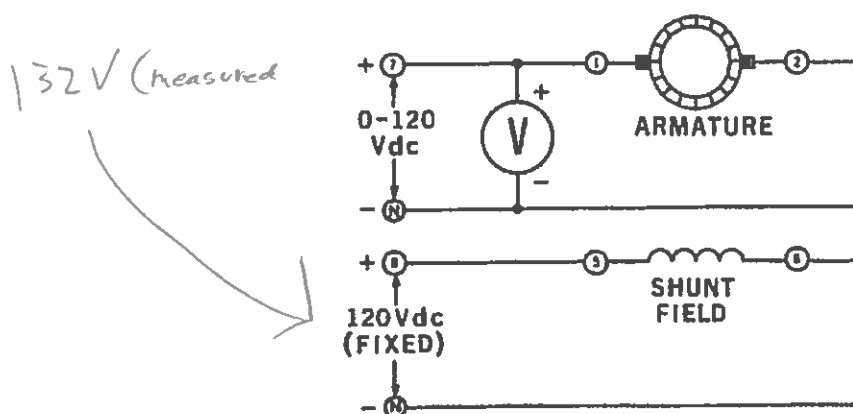

Figure 12-5.
19. Connect the circuit shown in Figure 12-5. Note that the armature is connected to the variable 0-120 V dc output (terminals 7 and N) while the shunt field is now connected to the fixed 120 V dc output (terminals 8 and N).